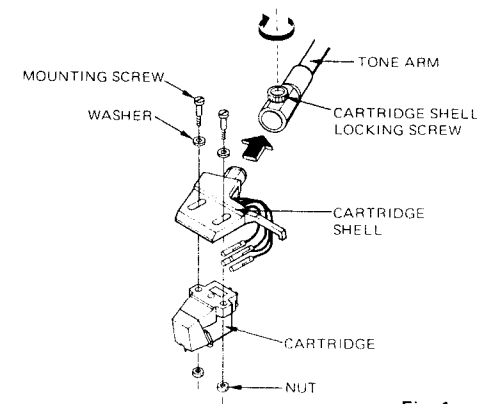

Fig. 1
- Plug the cartridge shell into the tone arm and tighten the cartridge shell locking screw by turning it clockwise. (Fig. 1)